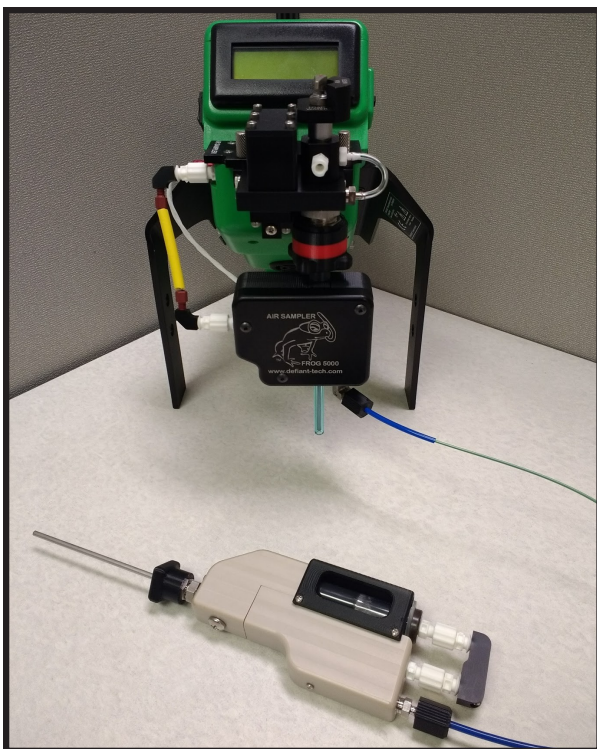

Figure 3.2-3: FROG with air sampler attached to the Inline Diluter via the transfer line
- Refer to the Frog-5000 User's Manual for proper installation of it's air sampler. Make sure transfer line goes between the Frog's air sampler and the Inline Diluter (Figure 3.2-3).